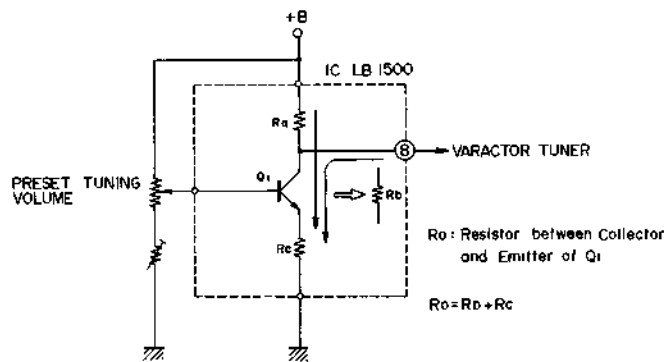

Fig. 19
When channel 1 sensor electrode is touched, voltage is supplied to the IC as the input signal through finger (body) resistance at terminal ⑯. Then, the impedance is lowered at IC station selector output terminal ⑧ and current flows as shown by the arrow marks in Fig. 19. Consequently, because the supply voltage to the varactor tuner diode is changed by the dividing ratio of R_a and R_o , station selection is possible by means of setting the preset volumes beforehand according to the desired broadcast frequencies.